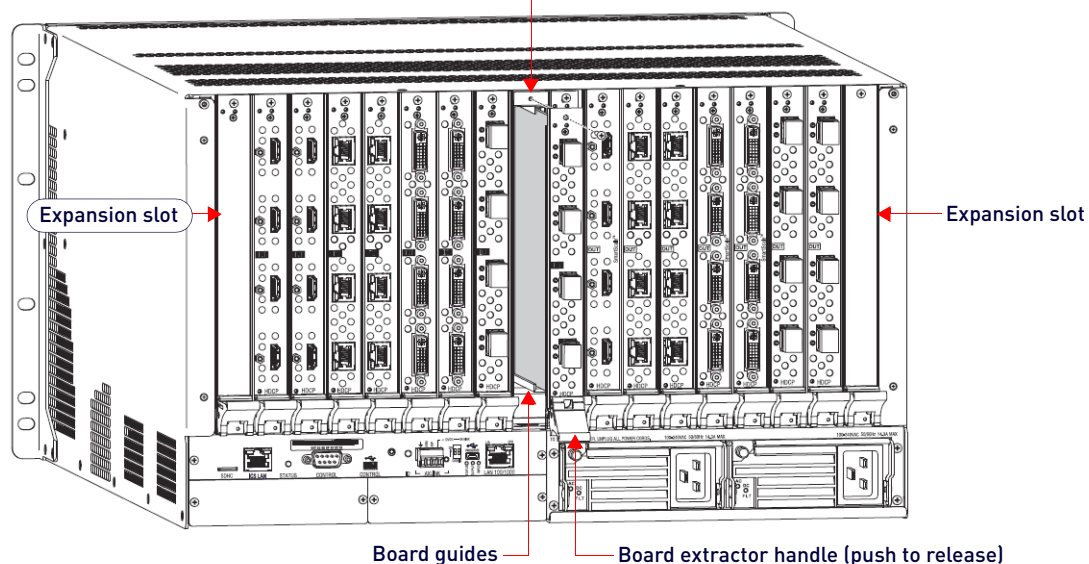
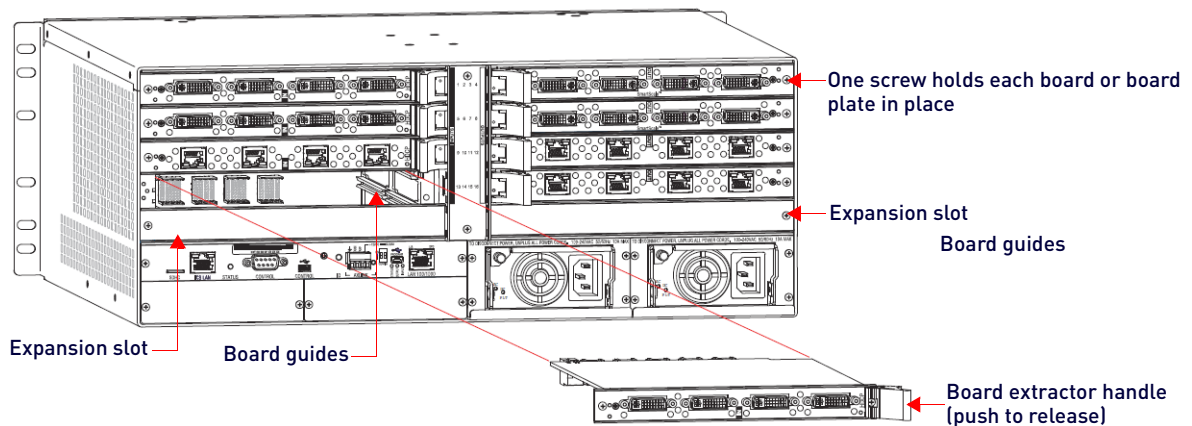

FIG. 130 Vertical board removal (DGX-3200)
FIG. 131 Horizontal board removal (DGX 800/1600/6400)
- a. Remove the screw that holds the board plate in place (for Enova DGX 3200, see FIG. 130; for Enova DGX 800/1600/6400, see FIG. 131).
- **DGX 3200:** Push board extractor handle down, and then pull board straight out (FIG. 130):
- **DGX 800/1600/6400:** Push extractor handle right (input) or left (output), pull board straight out (FIG. 131):